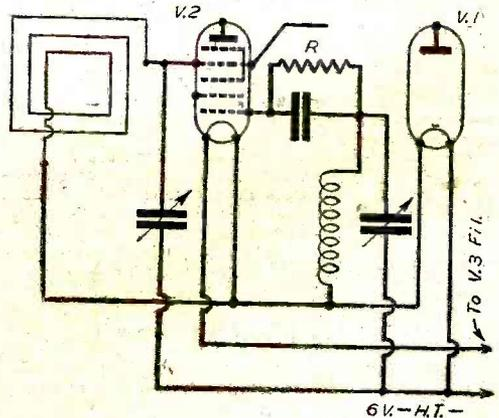

Fig. 3.—Circuit diagram of frequency-changer connections.
V2, the frequency changer, similarly requires no bias on either grid, but its filament is 1.5v. above the H.T.—line, which means that if its grid coils are taken to earth 1.5v. negative bias is applied. The earth end of the frame aerial (or coil) is therefore joined to the negative side of its filament, as shown in Fig. 3. The oscillator section may have its grid leak (R) across the grid condenser, as shown in Fig. 3, in which case the oscillator coil goes to the filament also, or the grid leak may go from grid to L.T.—, when the oscillator coil may go direct to the common negative line and the grid leak to the filament instead (Fig. 4). The tuning condensers still go to earth, as the 25 mfd. filament bypass condenser completes the H.F. circuit.